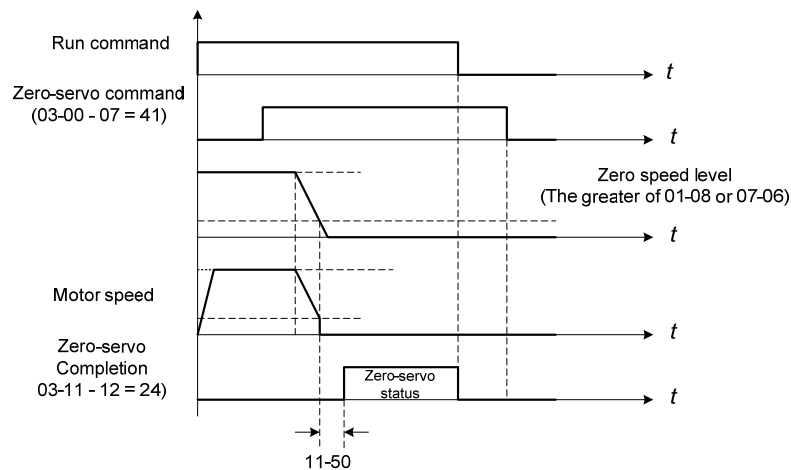

Figure 4.3.96 Zero servo operation
- . Refer to the figure 4.3.96 for zero servo operation.